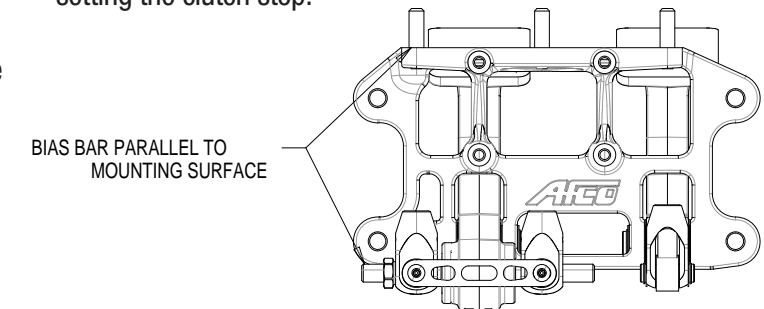

FIGURE 2:
- The bias rod should now be square with the pedal mount when the pedal is depressed. When the pedal is relaxed, the bias bar may or may not be at an angle. Ensuring the bias bar is square under compression will engage the front and rear brakes simultaneously. Refer to Figure 2.
Check that firm pedal and full brake engagement occurs before the pedal passes the lowest point of its "downswing". If the pedal crosses the imaginary vertical centerline before full engagement occurs then the mechanical advantage lessens and pedal feel will be affected. Refer to Figure 2 for clarification.